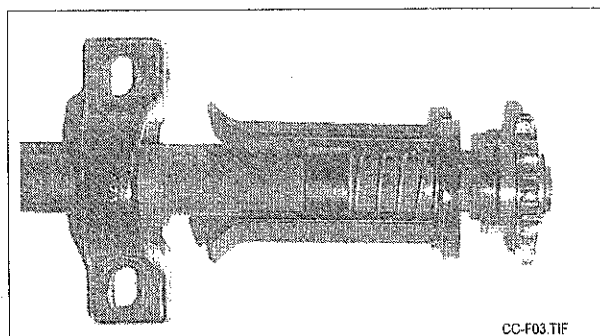

Figure 6.23 Clutch Disengaged
5. Refer to Figure 6.23. **Disengage** the manual clutch collar at the drive wheel by pulling the manual clutch collar back about 1" (2.5cm) and turning it a quarter turn. Ensure that the manual clutch collar is firmly seated on the shoulder of the air seeder drive shaft, not the milled 1/4" (3.2cm) bore sprocket.